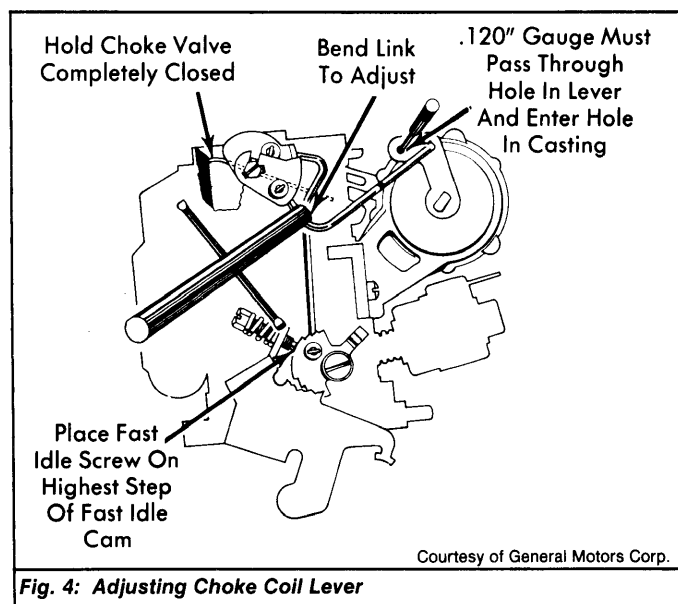

Fig. 4: Adjusting Choke Coil Lever
- 1) Place cam follower on HIGHEST step of fast idle cam. Hold choke valve closed. See Fig. 4.
NOTE: 1976-78 choke coil lever is shown in Fig. 4, 1979 is similar.